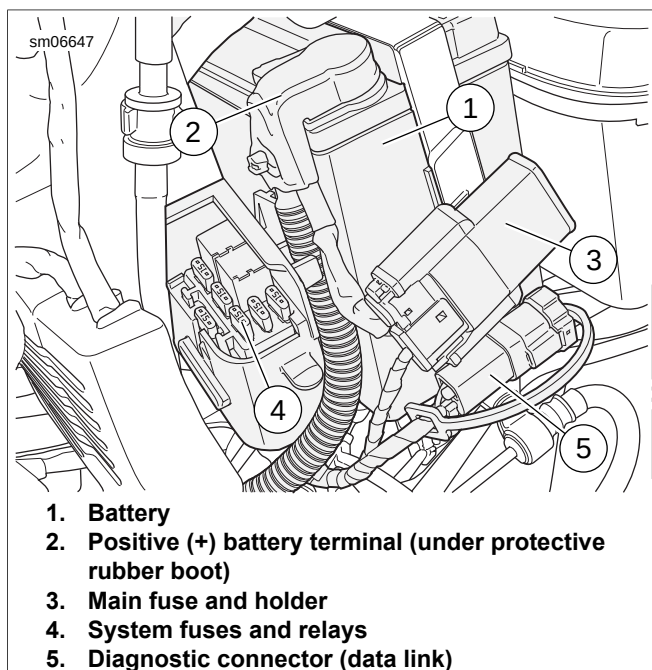

Figure 2-133. Main Fuse and Battery Location: All Models
See Figure 2-133. The left side cover provides access to the battery (1), fuses (3, 4) and diagnostic connector (5).